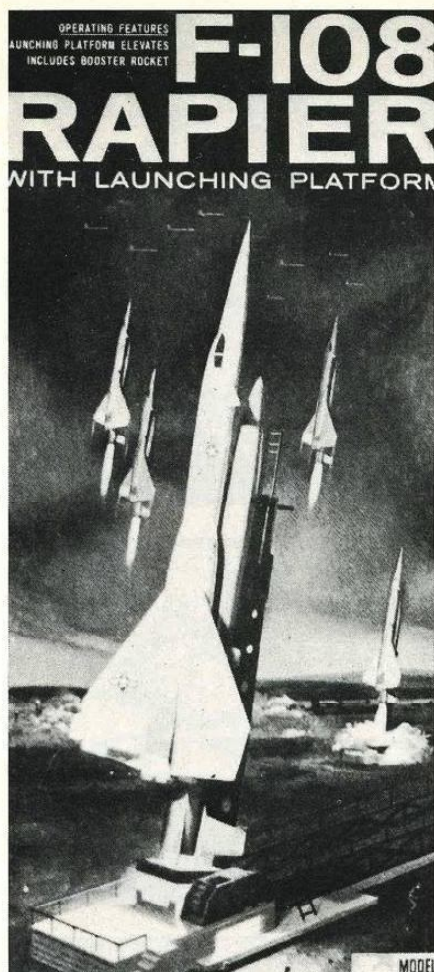

Fig. 1. ITC F-108 Rapier
**Production.** There have been many kits of the P-51D Mustang, but only one kit of the F-108, which makes this kit more valuable. Subsequent reissues of older kits also affect value. The 1/89 scale F-108 kit by ITC (No. 3663) is probably the rarest U. S. kit ever made by a major company, Fig. 1.